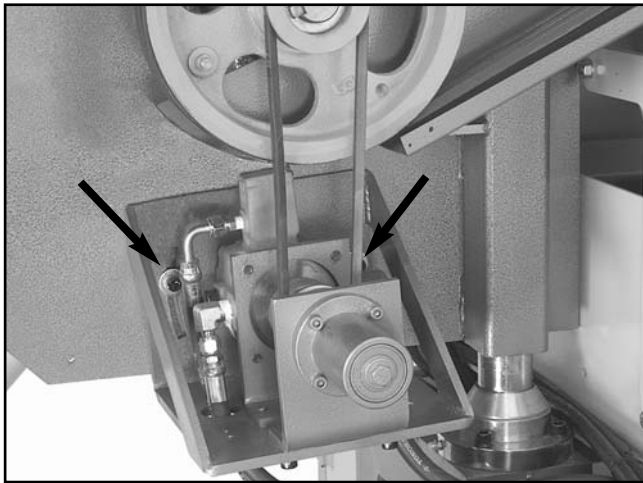

Figure 38. Pump seat cap screws.
2. Adjust the belt tension by loosening the cap screws shown in **Figure 38**.